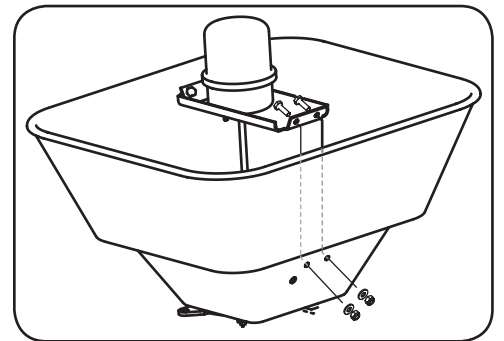

Figure 2-6
1. Attach the motor assembly to the bottom inside of the hopper by threading four M6 x 20 bolts through and connecting with flat washers and M6 locknuts. See Figure 2-6.